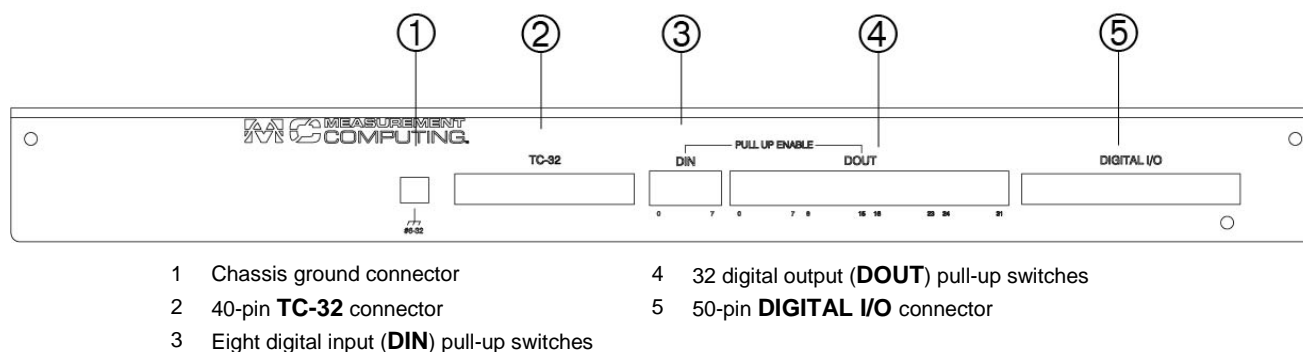

Figure 3. TC-32-EXP rear panel components
2. Connect the chassis ground connector on the rear of the TC-32-EXP (refer to Figure 3 on page 8) to the chassis ground connector on the rear of the TC-32.
TC-32-EXP rear panel components are shown in Figure 3.